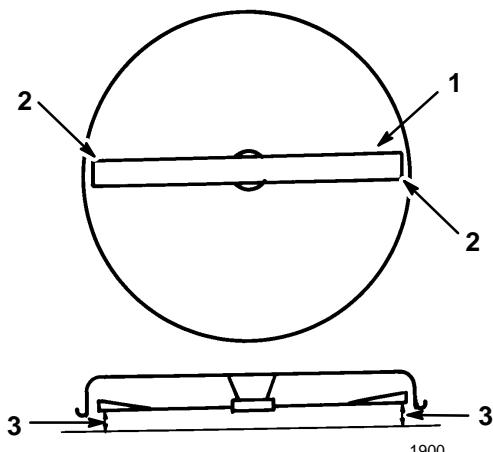

Figure 42
4. Carefully rotate blade(s) side to side (Fig. 42). Measure between the outside cutting edges and the flat surface (Fig. 42). If both measurements are not within $3/16"$ (4.762mm), an adjustment is required; refer to steps 5 and 6.